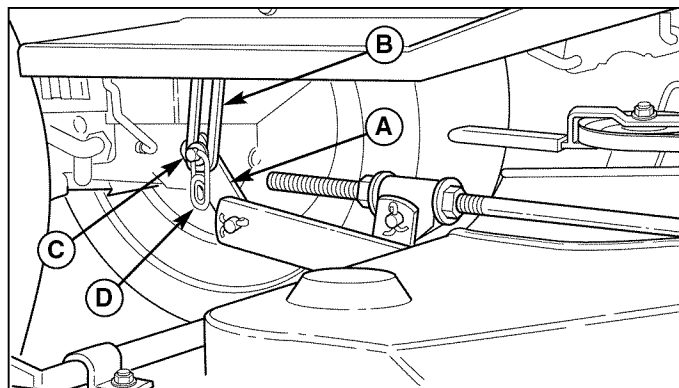

Figure 9. Lift Arms
4. Disconnect the mower lift arm (A, Figure 9) from the tractor lift arm (B). Re-install washer (C) and safety clip (D).
4. See Figure 9. Connect the mower lift arm (A) to the tractor lift arm (B) using the flat washer (C) and safety clip (D).